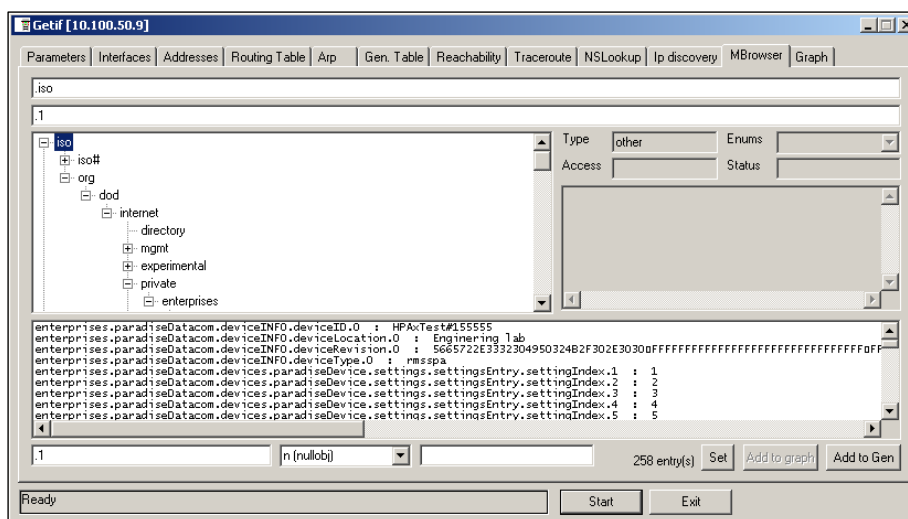

Figure 5-15: Getif MBrowser window, with update data in output data box
6. See update data in output data box (**Figure 5-15**).